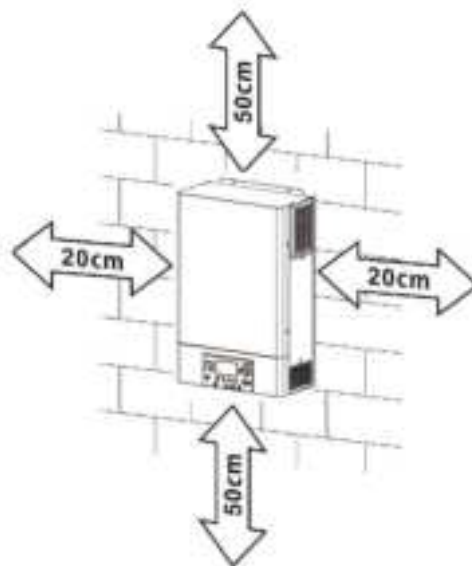

Fig. 5.1: Minimum distance to other objects
- Ensure a minimum distance to other objects and surfaces as shown in **Fig. 5.1** to guarantee sufficient heat dissipation and to have enough space for removing wires.